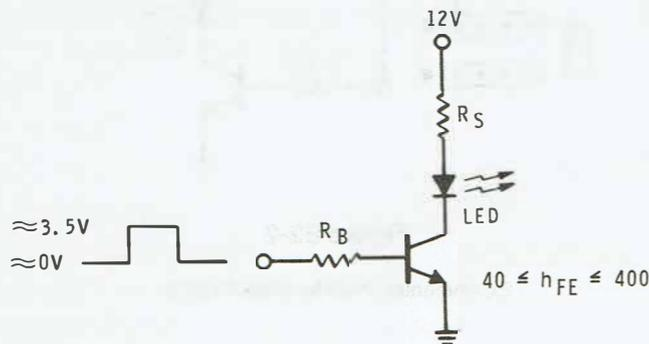

Figure E2-1
- The LED in Figure E2-1 will provide adequate brilliance if the current through it is approximately 15mA. Calculate the required values for R_S and R_B assuming the voltage drop across the LED is approximately 2V.